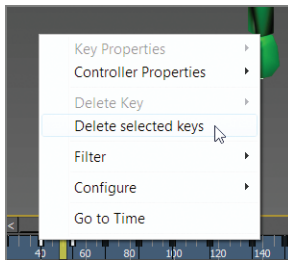

FIGURE 13.3 Delete the keys on either side of frame 50.
5. Once the two keys are selected, right-click either key and then delete them as shown in Figure 13.3.